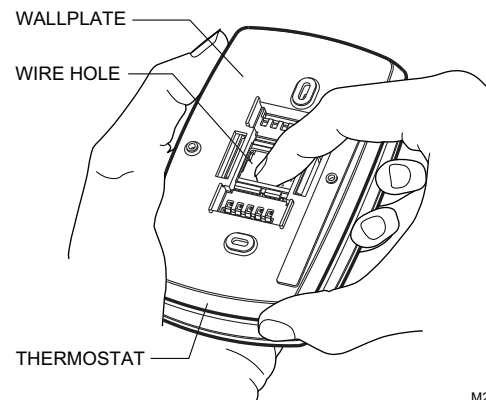

Fig. 7. Separate wallplate from thermostat.
1. Separate the wallplate from the thermostat. See Fig. 7.